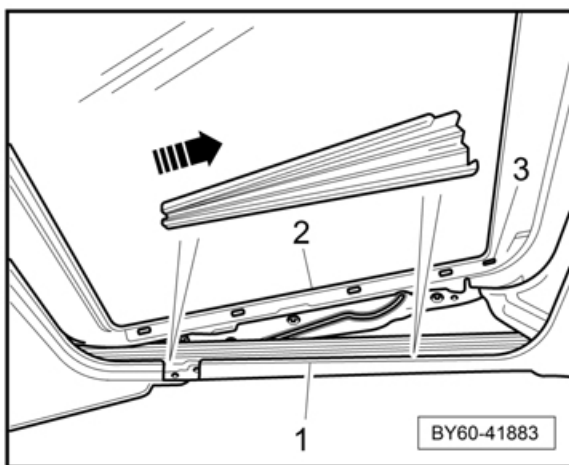

Figure 1
2. Unclip the bellows from the lower rail -1-, starting at the rear and working forwards (see Figure 1)
3. Unclip the bellows from the upper rail -2-, starting at the front and working rearwards (see Figure 1)
4. Finally, Push the bellows rearwards to disengage the peg from the slotted hole -3- in the glass panel (see Figure 1)